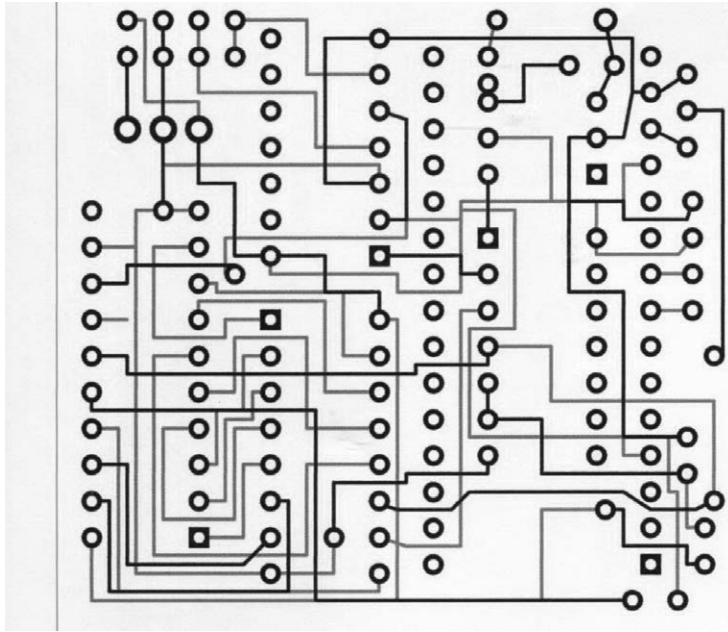
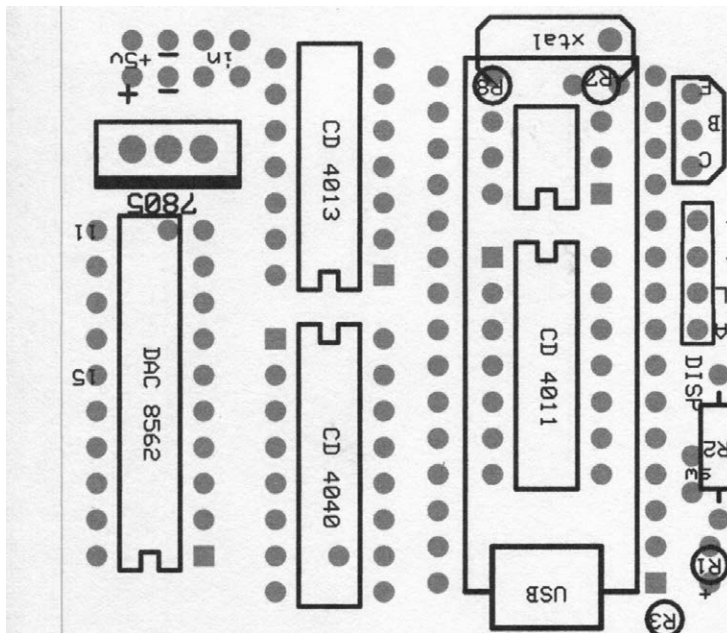

Figure 8-15: Trace patterns for the shield. The darker gray is the upper copper layer, and lighter gray is the lower layer.
Figure 8-16: The component placement on the shield
Unlike the Chronograph Lite, the Full Ballistic Chronograph is best built on a shield. The shield is a little more involved than some of the others in this book, but don't be intimidated. Figure 8-15 shows the actual traces of the shield, while Figure 8-16 shows the silkscreen image with the part placements and hole configuration. For this project, I opted for a double-sided board because the circuit was a little more complex than some of the others and because it allowed me to minimize the space required. The complete PCB file is available for download at <https://www.nostarch.com/arduino playground/>.
2. Begin populating the PCB. I usually like to start with the components that go under the Nano—in this case, the oscillator adapter board, resistors, crystal, and CD4011. Place them in the PCB, as indicated in Figure 8-15. Next, I like to include the headers that the Nano plugs into. Once again, it’s not necessary to fully populate all the headers for the Nano. While on occasion I do use a full complement of headers, I tend to populate only those with connections, as well as a pair at the very top, in order to simplify alignment when plugging in the Nano. Additionally, there should be enough to mechanically support the Nano. Solder these headers in place now.